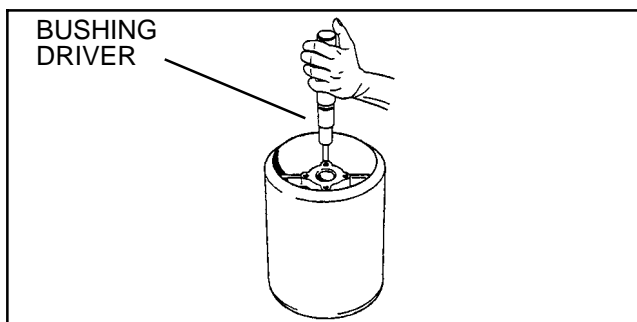

Figure 27
3. Remove bushings from the drum (Fig. 27).